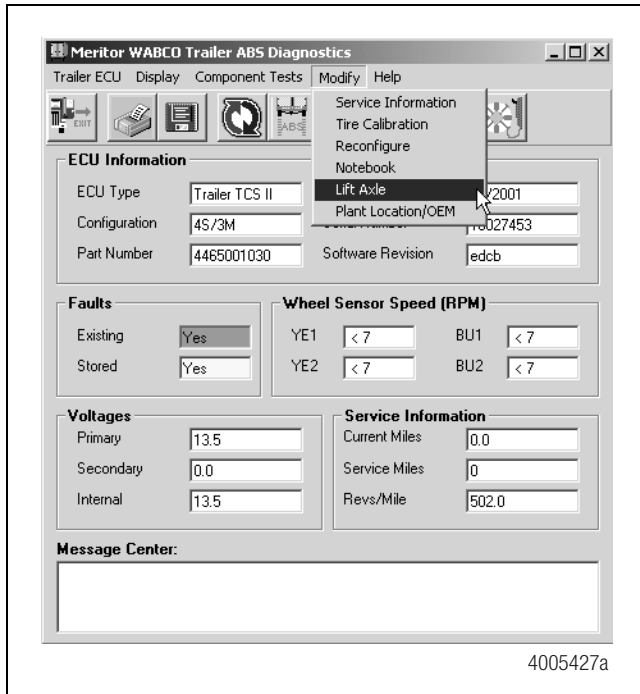

Figure 29
1. Display the **Trailer ABS Main Screen**. Click on **Modify** to display the pull down menu. Figure 29.